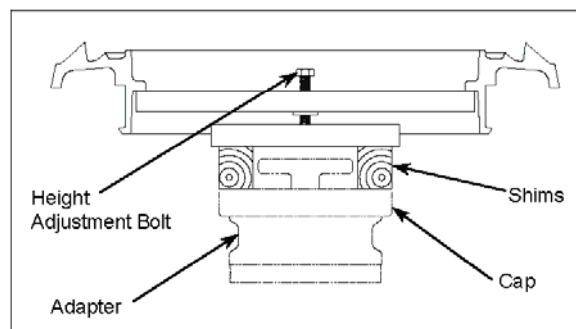

Figure 3 – Standard Cover Model Height Adjustment
Step 8: (See Figure 3 & 4)
Install adjusting system beneath tabs on mounting ring. See Figure 3 for standard cover models. See Figure 4 for sealable cover models. Add shims as needed and adjust with screw. (Shims must be cut to size for sealable cover models.) The height can be increased up to 1" (2.5cm).